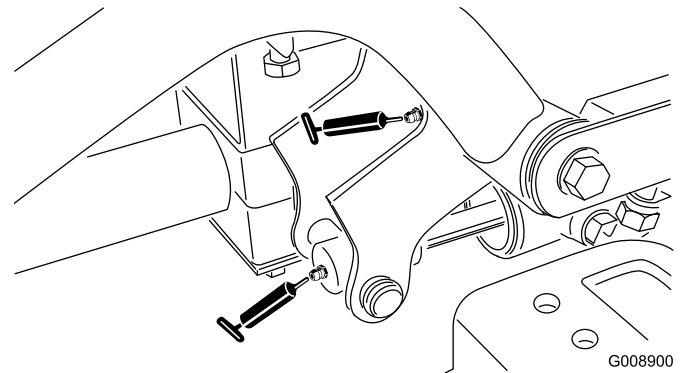

**Figure 54**
- Left front lift arm pivot and lift cylinder (2) (Figure 54)